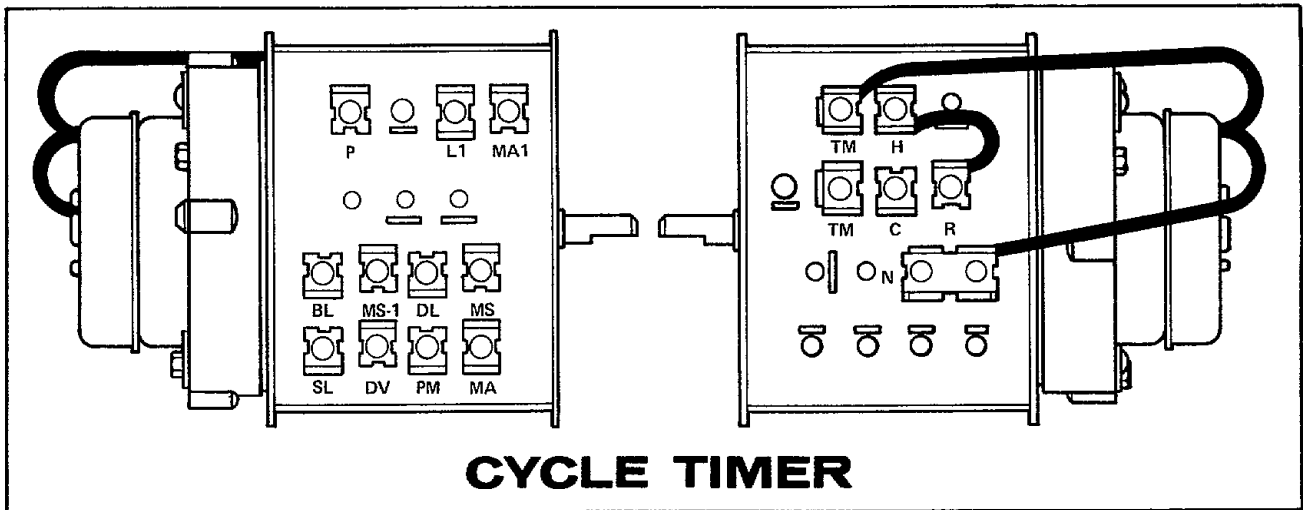

Figure 64
**61. CYCLE TIMER CONTACT POINTS** (Refer to Figure 64)